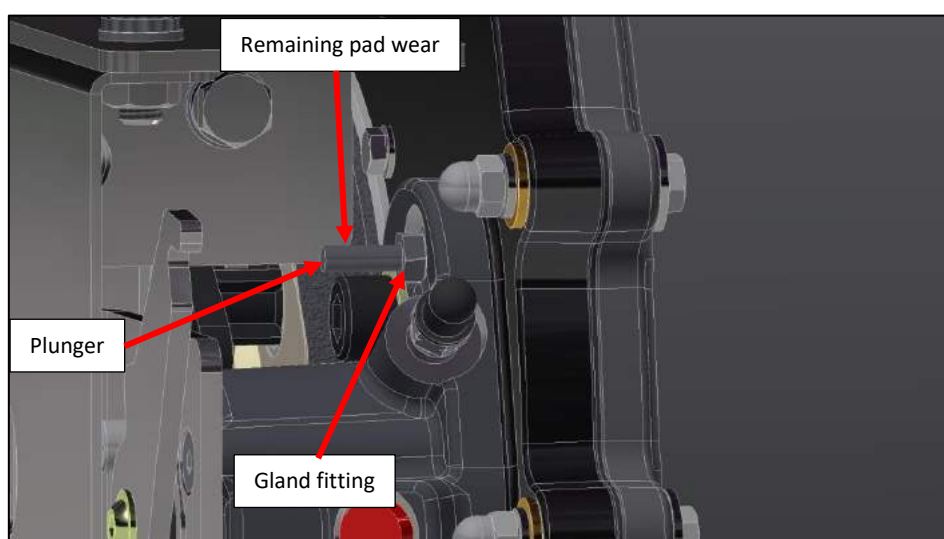

Figure 57
3. The plunger should project out from the gland fitting 14mm approx. (Figure 57).